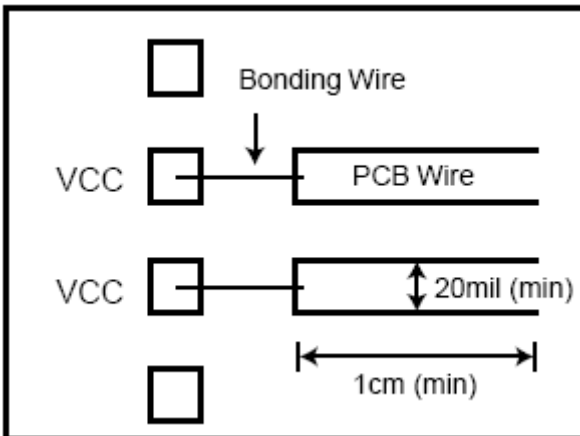

Figure 1 Power Pin Pitch
2. Please keep the PCB layout width \geq 20 mil for the VCC/VCCQ and VSS/VSSQ.(Figure 1)